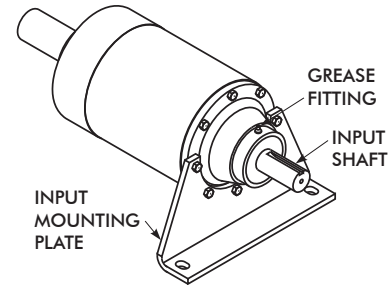

FIGURE 3A
2. Position input mounting plate to the input shaft side as shown in Figures 3A and 3B (next column), and attach with the recommended scoop bolt kit as listed in Table 1. Reference Table 2 (Page 4) for recommended bolt torque values.